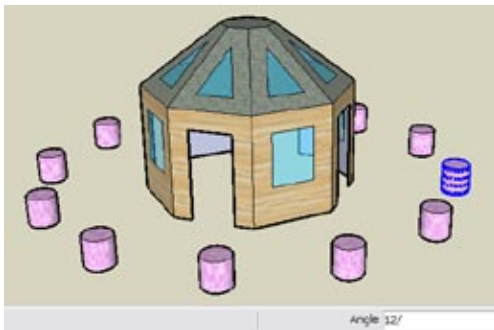

Figure 1-64
4. Enter 12/ (use the slash symbol) to get a total of 13 planters evenly spaced around the circle, as shown in Figure 1-64. (The last planter shares the same space as the first copy, so it appears that you have 12 planters.)